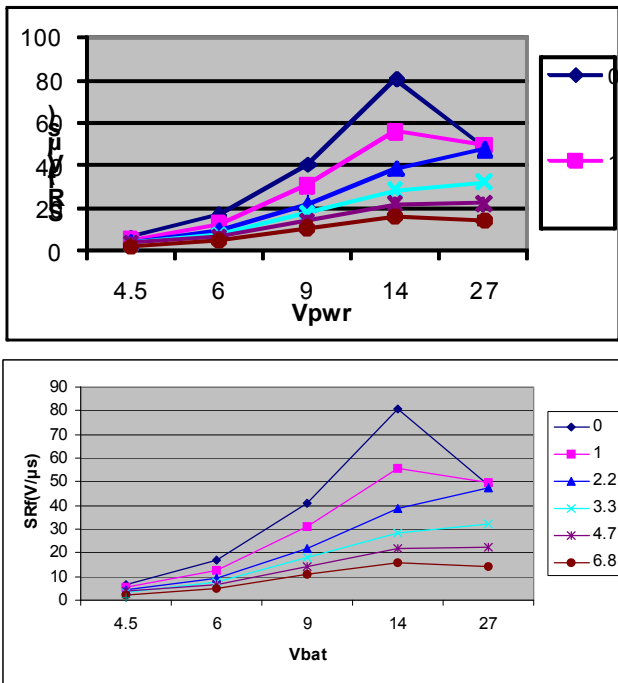
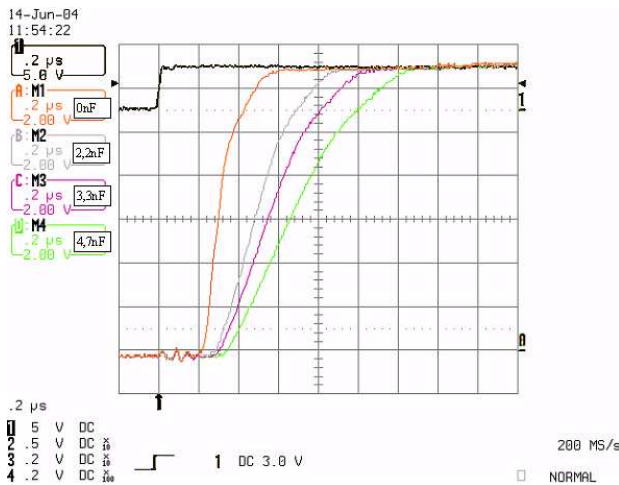

Figure 36. Positive and Negative Slew Rate vs. SR Capacitor
Figure 37. OUT switching vs. SR Capacitor
The switching time is a critical parameter. The 34981 provides adjustable slew rates through an external capacitor (SR), which slow down the rise and fall times to reduce the electromagnetic emissions. However, this adjustment has an impact on power dissipation. Figure 36 gives the positive ( $SR_R$ ) and negative ( $SR_F$ ) slew rate versus different values of SR. This is illustrated in Figure 37.